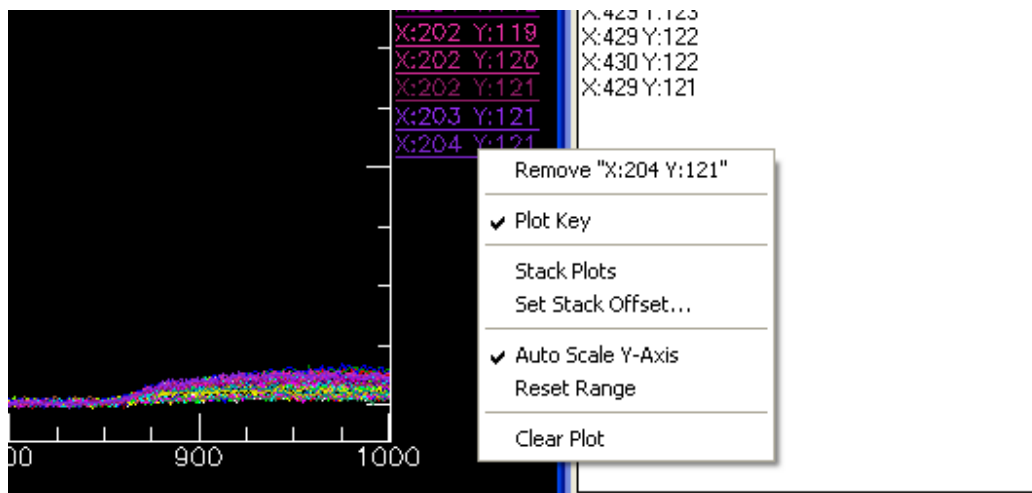

Figure 37. Selection of spectra from Plot Key to be removed
- g. Then select Remove X: ### Y:###, for all spectra chosen (see Figure 37)